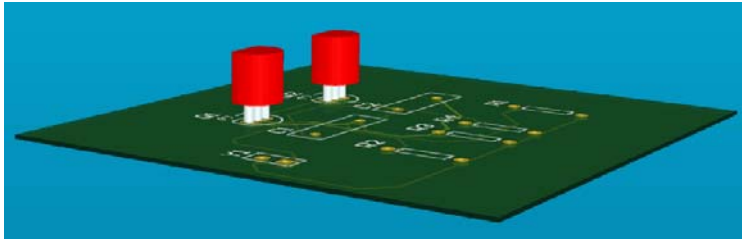

Figure 12. 3D bodies on board.
8. Save the library, then select **Tools » Update PCB With Current Footprint**. The PCB should look something like Figure 12.